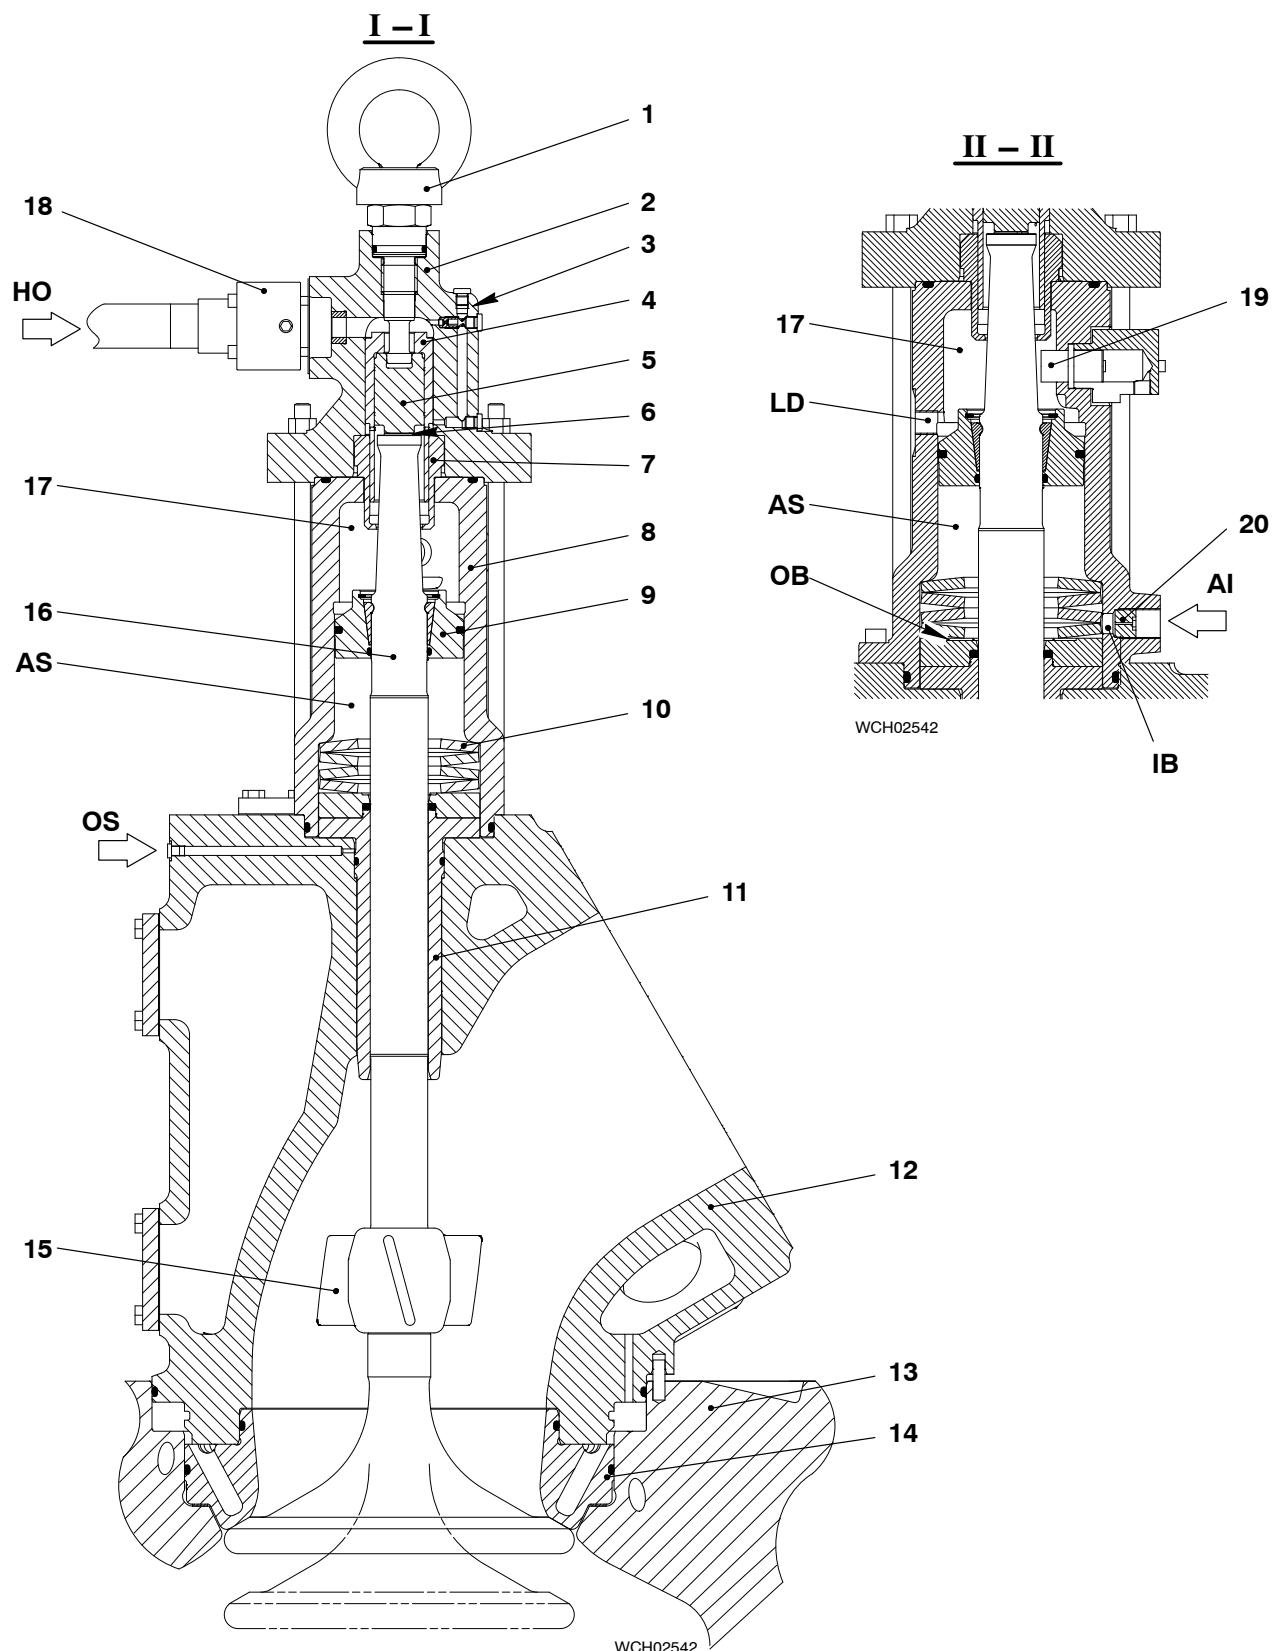

Fig. 2: Exhaust Valve and Leakage Oil Drain
The air spring (AS) is below the air spring piston (9, Fig. 2).
Key to Fig. 2: Exhaust Valve and Leakage Oil Drain
When the piston in the valve control unit (VCU) operates, hydraulic oil (HO) flows through the connection (18, Fig. 2) into the top housing (2). The outer piston (4) and the inner piston (5) move down.